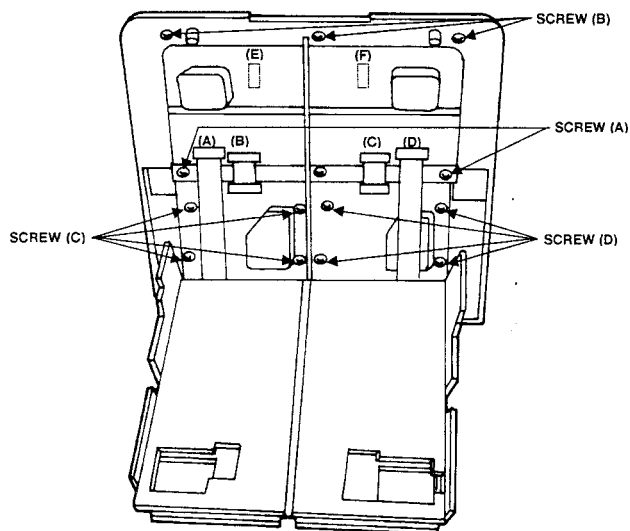

Fig. 6-1-5
6. Disconnect the connector (A) : P61901 and (B) : P61601 on the AV STSCON P.C.Board as shown in figure 6-1-5.
7. Unscrew 4 screws (C) for VTR 1 and 4 screws (D) for VTR 2, then remove the shield plate as shown in figure 6-1-5.
8. Disconnect the connector (A) : P2033 on the Servo P.C.Board.